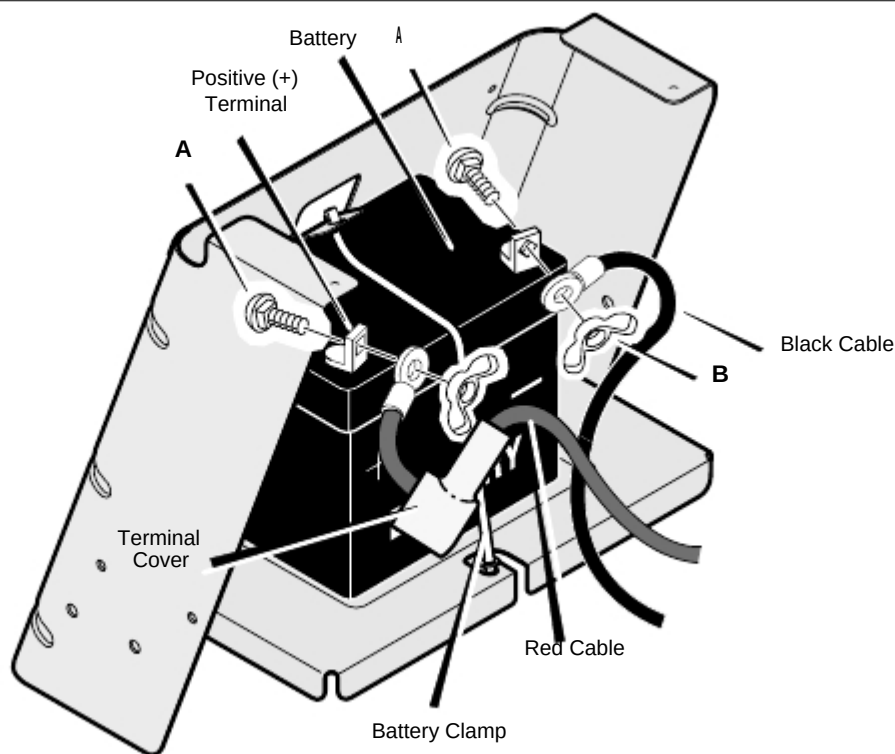

Figure 3
2. Check the top and the side of the battery for the **battery date** (Figure 3).
2. Fasten the **red cable** and **terminal cover** to the **positive (+) terminal** with the fasteners as shown (Figure 3).